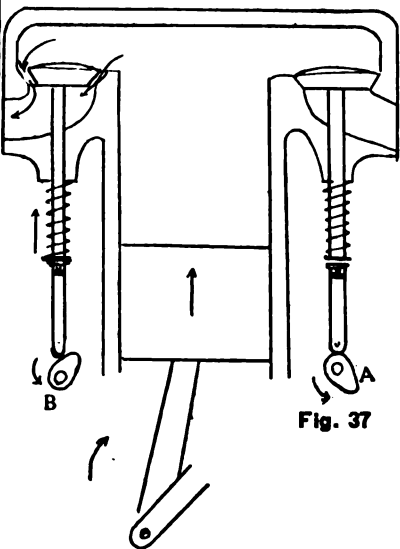

Fig. 37
pressed and is fired at the time the piston reaches its upward limit. During this upward stroke and the following downward stroke both valves remain closed, for the cam-shaft, making but one-half a revolution during the complete turn of the main shaft, does not bring the cams against the push-rods until the next upward stroke has commenced, as shown in Fig. 37. At this point the exhaust-valve cam (B), which is approximately at an angle of ninety degrees from the intake-valve, commences to bear upon the push-rod and to raise the valve from its seat. During the upward stroke of the piston, or one-half of this revolution of the crank, the exhaust-cam travels through one-quarter of a revolution, thus allowing the exhaust-valve to seat just as the piston completes its stroke, whereupon the intake-valve again commences to open. By studying these diagrams you will see that the intake-valve opens at practically the upward limit, or *dead-center* of the fly-wheel, and closes at the lower limit or downward dead-center, and that the exhaust-valve opens at the lower limit, or downward dead-center, and closes just before the upward dead-center. In actual practice the valves are designed to open and close a little earlier or later than dead-center to allow for *lag* in the mechanical action and the momentum of the incoming and outgoing gases. As every motor varies slightly in this detail, the makers usually mark the surface of the fly-wheel as a guide to the proper timing of the valves. A fly-wheel with these markings indicated is shown in Fig. 38, and when adjusting a motor the valves should be accurately timed to correspond to these marks. Slight deviations from exact timing may be corrected by adjusting the tappets up or down, but if any great alteration is required it must be accomplished by turning the gears and moving their intermeshing teeth either farther ahead or farther back.